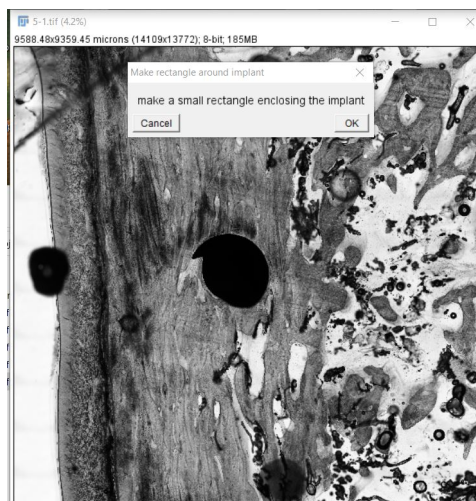

Figure 2: View of the centering step. After a rectangle has been made around the implant, press OK. The rectangle tool is automatically sett before this step.
- A black and white image will appear along with a dialog box instructing the user to make a small rectangle enclosing the implant (Figure 2).